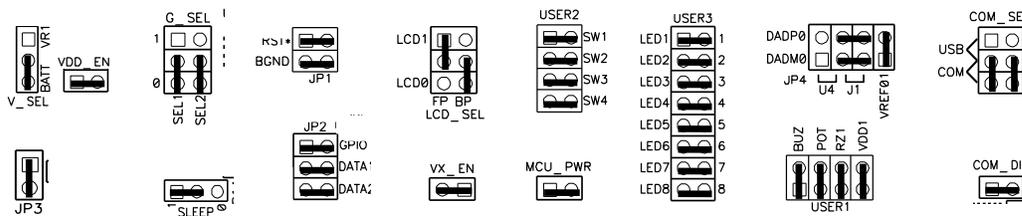

Figure 1: DEMO9S08LH64 Default Option Settings
1. Verify the option jumpers are set in default positions. Refer to Figure 1 above.
- Ensure the option jumpers are set to default positions. Refer to Figure 1 above.